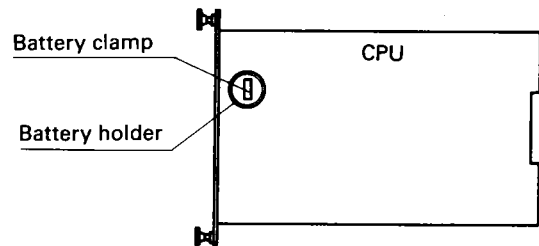

Figure 10.6 Battery Replacement
- (1) The battery holder is attached on the upside front of the CPU board printed board. (Refer Figure 10.6.)
- (2) Wipe the new battery with a dry cloth and install it to the polarity is correct.